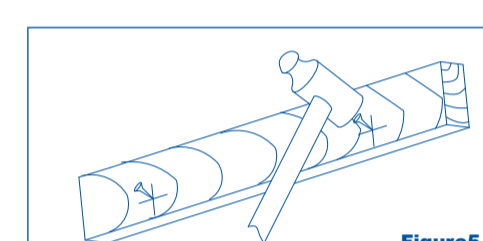

Figure 5
- b) Remove housing temporarily and pound nails partially into joists at all four marked locations (Figure 5).